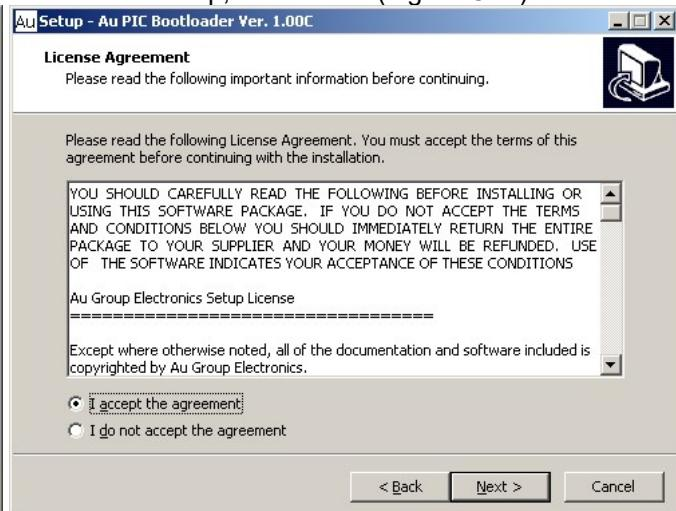

Figure C-3
3. "License Agreement" window will show up. Read the license agreement and select "I accept the agreement", then click "Next" to continue (Figure C-3).